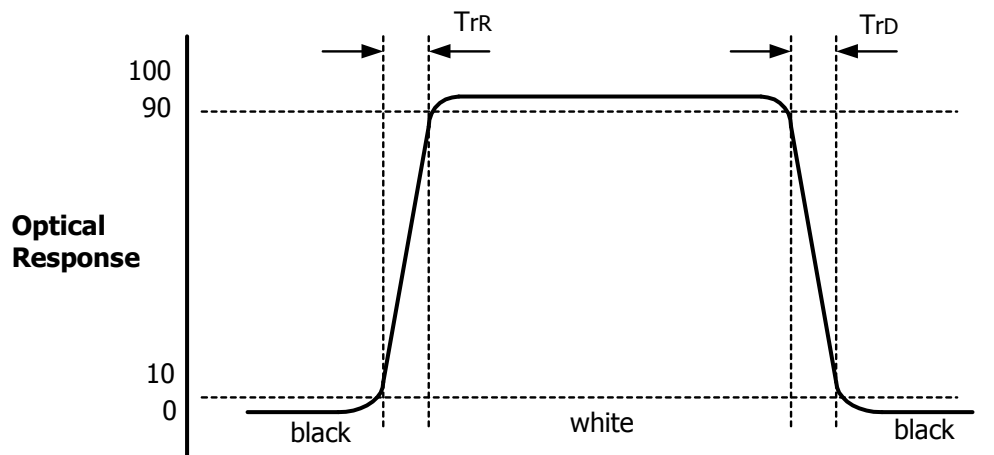

FIG. 3. Response Time
4. Response time is the time required for the display to transition from black to white (Rise Time, Tr_R) and from white to black (Decay Time, Tr_D). For additional information see FIG 3